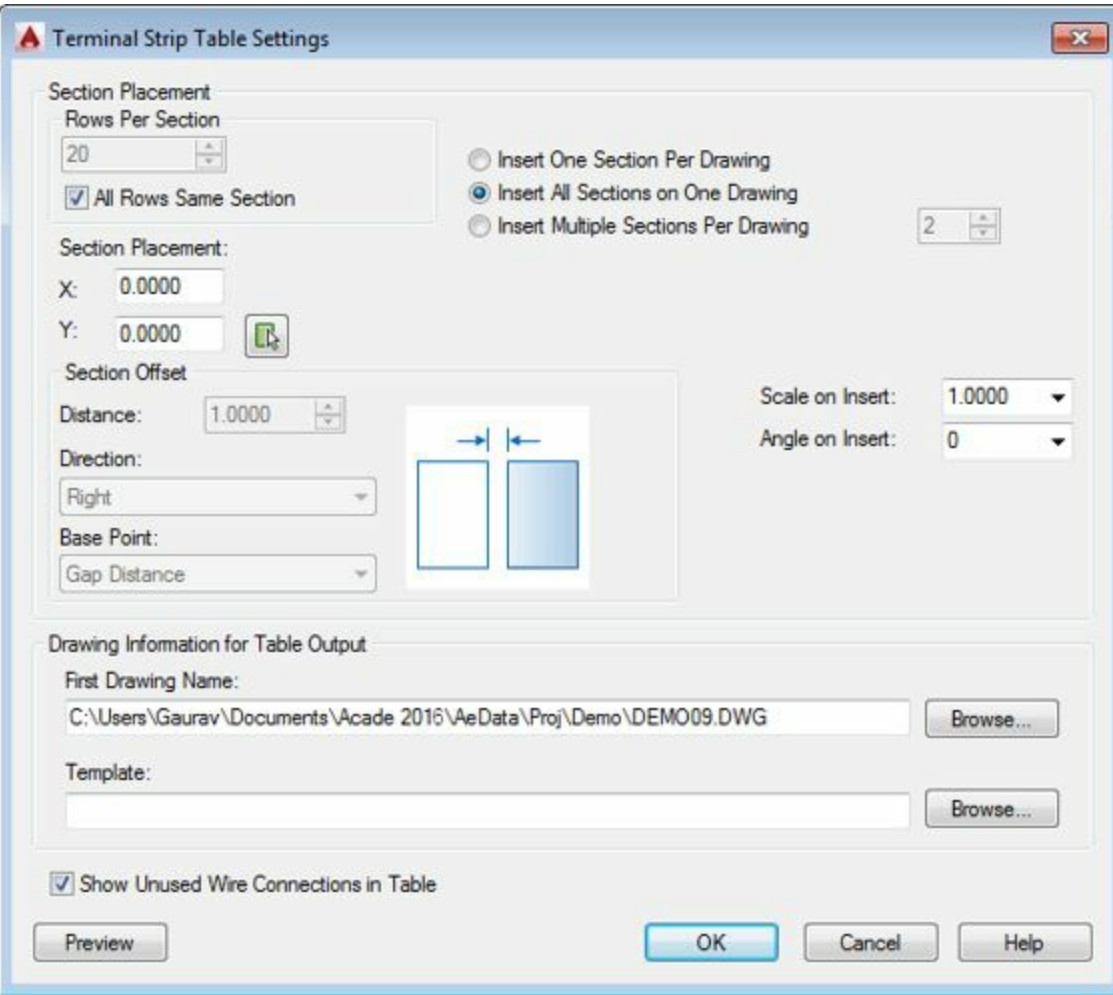

Figure-32. Terminal Strip Table Settings dialog box
- Click on the **Settings** button in the dialog box. The **Terminal Strip Table Settings** dialog box will be displayed; refer to Figure-32.